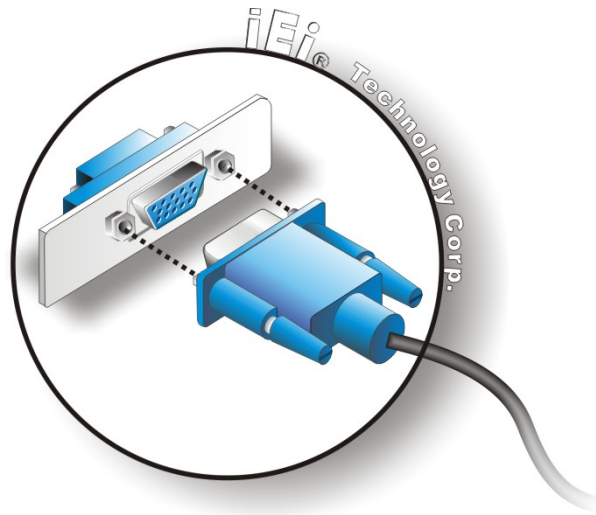

Figure 3-26: VGA Connector
- Step 3:** **Insert the VGA connector.** Once the connectors are properly aligned with, insert the male connector from the VGA screen cable into the female connector on the DRPC-100. See **Figure 3-26**.